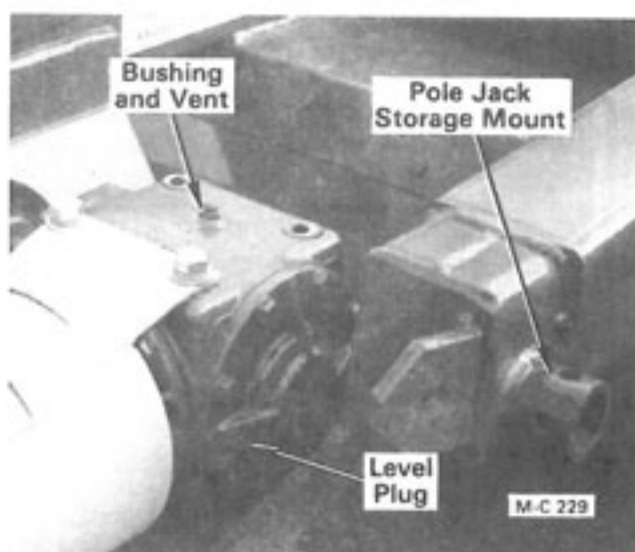

Figure 10
1. Remove the oil level plug on the left side of the gear box, see Figure 10. If the oil level is too low, remove the bushing, with vent, on top of the gear box and add oil (See note) until it runs out of the level plug. Install the level plug. Check to be sure the vent is not plugged with paint or dirt. Install the bushing with vent.